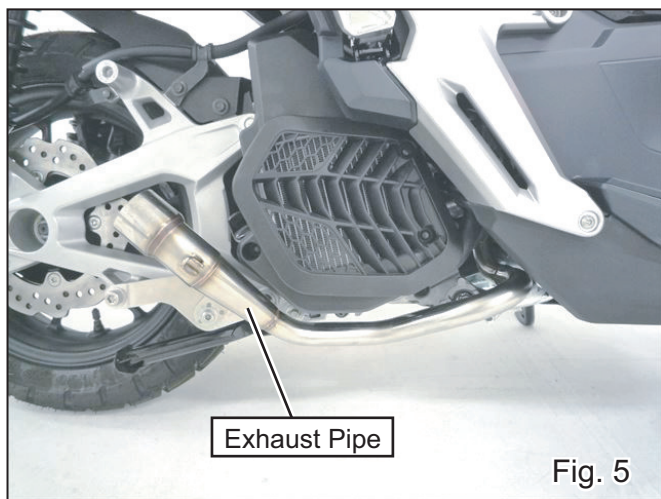

Fig. 5
- 6) Make sure to insert HONDA genuine exhaust gasket into exhaust port. Then, mount Exhaust Pipe on exhaust port with stock nuts. Tighten nuts by hand at this stage. (See Fig. 5 & 6 on next page)